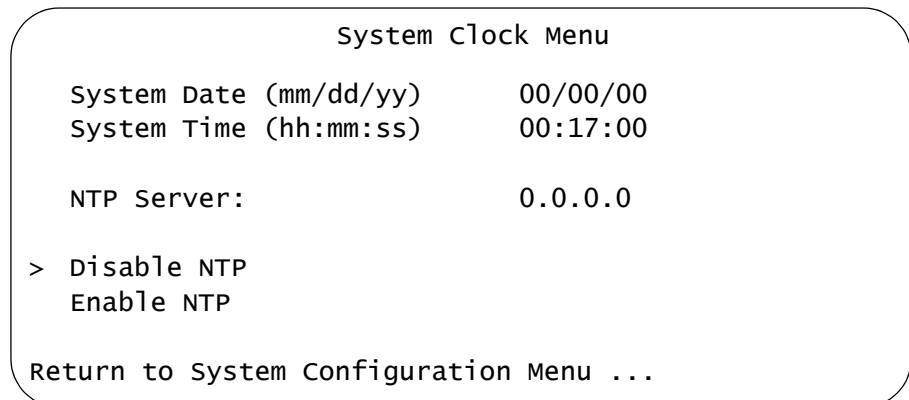

Figure 26. System Clock Menu
3. From the System Configuration Menu, select **System Clock Configuration** to display the menu in Figure 26.
3. From the System Configuration Menu, select **System Clock Configuration** to display the menu in Figure 26 on page 93.